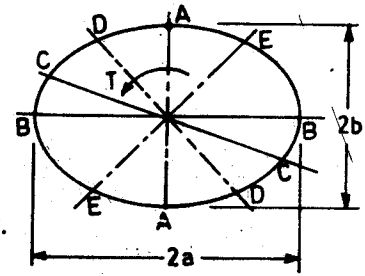

Fig. 33
75. Fig. 33 shows an elliptical shaft. It is required to transmit a torque T . The maximum shear stress will occur at